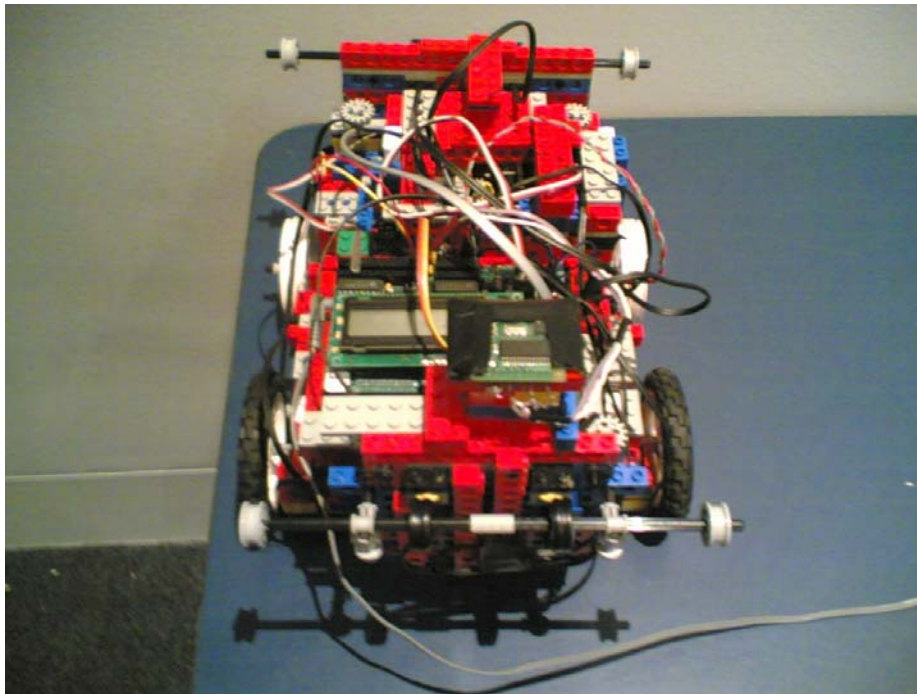

Figure 5: Compass mounted on striker
Step 3: Mount the compass on the robot. The compass should be kept as far away from any motors or solenoids as possible. The compass module should be horizontal with the PCB, parallel to the earth's surface. Also, the IC's should be on top. Figure 5 shows the mounting of the compass on the striker used by the team "Robots 1, Humans 0" in the CSCI 445 Fall 2004 RoboSoccer competition.